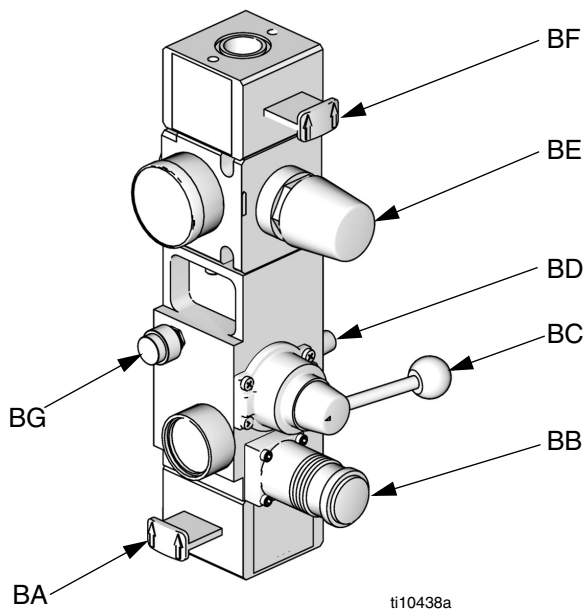

FIG. 3. Integrated Air Control Module
| G Integrated Air Controls (see FIG. 3)                                       | U Air Line Drain Valve (not supplied)         |
- G Integrated Air Controls (see FIG. 3)
2. **For D200s, D200, S20, and D60 Air Controls:** See FIG. 3, page 12.
- a. Close the air motor slider valve (BF) and the main air slider valve (BA).
- c. Jog the director valve (BC) up and down to bleed air from ram cylinders.